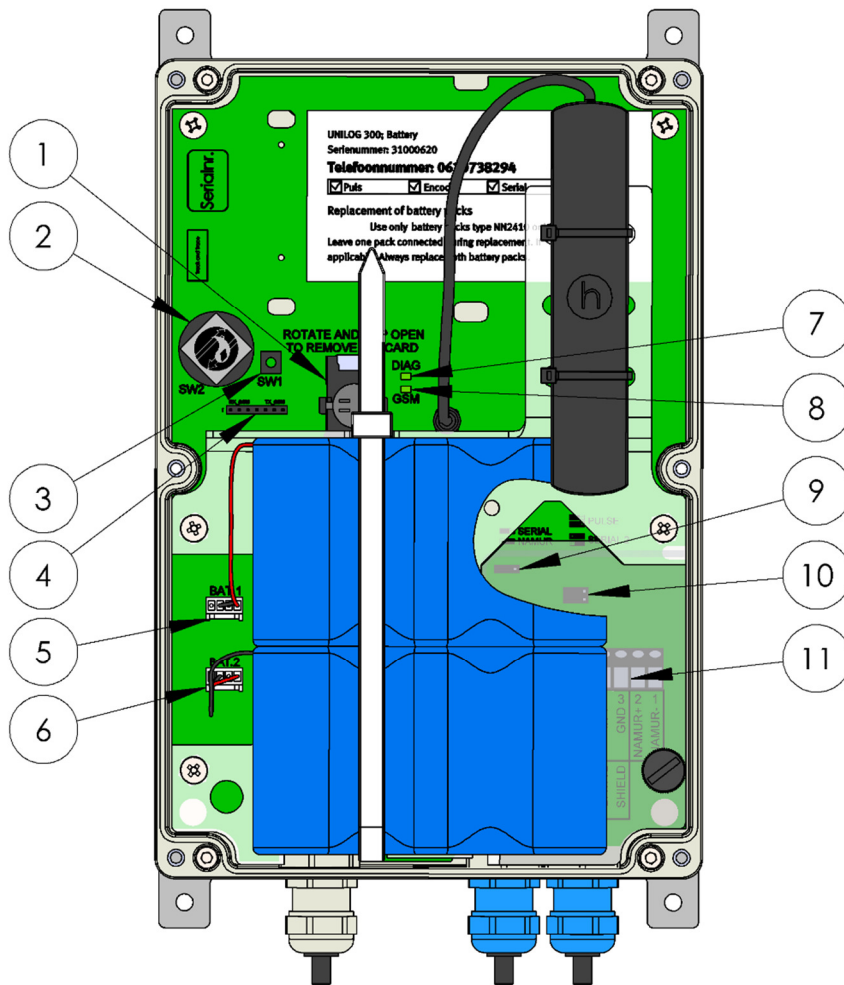

Figure 4. Opened UNILOG 300 with battery pack
4. Activate GSM or TCP by briefly pressing down switch SW1 (pos. 3, figure 4). The UNILOG 300 GSM modem will now be registered on the GSM network. Registration can take several minutes.
If UNILOG 300 is attached to the GSM network successfully, the GSM status LED (pos. 8, figure 4) will begin to flash.
- a. Check in case of GSM, the GSM status LED (pos 8, figure 4) flashes faster (once every two seconds)
3. Activate GSM or TCP by briefly pressing down switch SW1 (pos. 3, figure 4). The UNILOG 300 GSM modem will now be registered on the GSM network. Registration can take several minutes. If UNILOG 300 is attached to the GSM network successfully, the GSM status LED (pos. 8, figure 4) will begin to flash.
- a. Check in case of GSM, the GSM status LED (pos. 8, figure 4) flashes faster (once every two seconds)